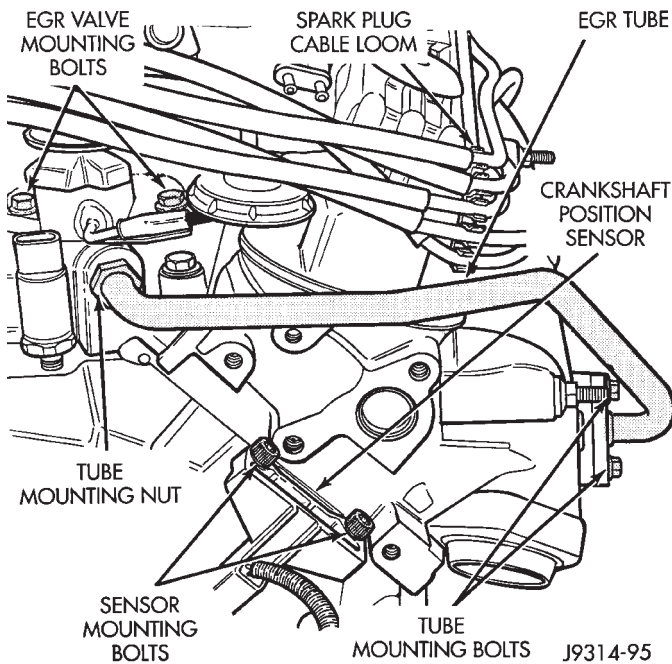
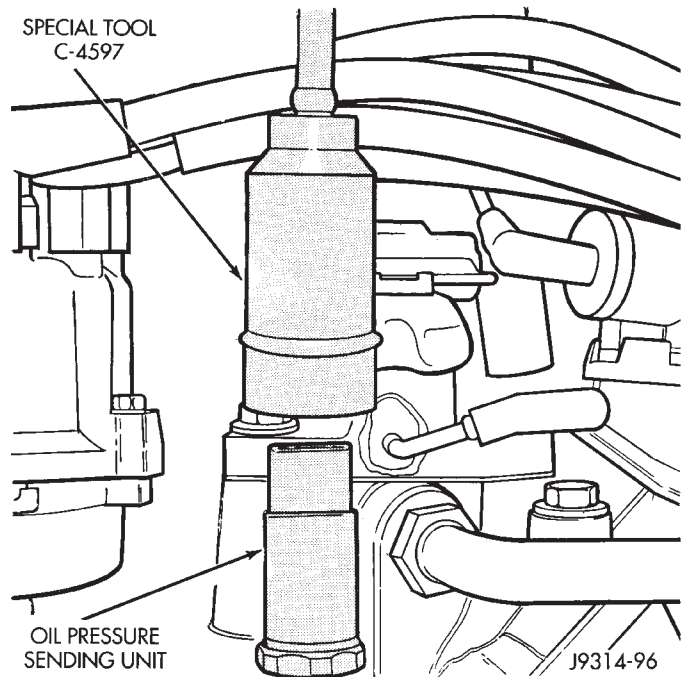

Fig. 8 EGR Tube—5.2L Engine
Fig. 10 Oil Pressure Sending Unit—Removal/Installation
(1) Remove the spark plug cable loom and spark plug cables from valve cover mounting stud at rear of right valve cover (Fig. 8). Position spark plug cables to top of valve cover.
(3) Disconnect 2 hoses at Exhaust Gas Recirculation (EGR) valve. Note position of hoses at EGR valve before removal.
(4) Disconnect electrical connector and hoses at electric EGR transducer (EET). Note position of hoses at EET before removal.
(5) Remove 2 EGR valve mounting bolts (Fig. 8) and remove EGR valve. Discard old EGR gasket.
(6) Disconnect electrical connector at engine oil pressure sending unit.
(7) To prevent damage to oil pressure sending unit, a special tool, such as number C-4597 must be used (Fig. 10). Remove sending unit from engine.
(8) Loosen EGR tube mounting nut at intake manifold (Fig. 8).
(9) Remove 2 EGR tube mounting bolts at exhaust manifold (Fig. 8) and remove EGR tube. Discard old gasket at exhaust manifold.
(10) Remove EGR tube from vehicle.